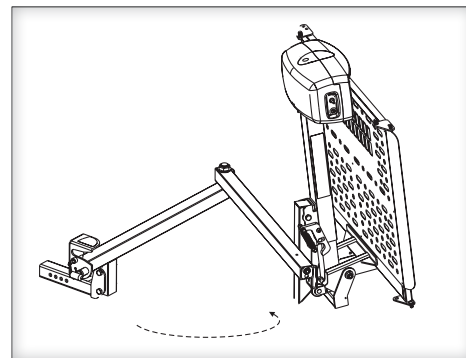

Figure 8-5
- Grasp the lift firmly and swing it out, away from the vehicle. The Swing-Away can be opened up to 180 degrees from the closed position to allow full access to the vehicle's cargo area. [Figure 8-5]